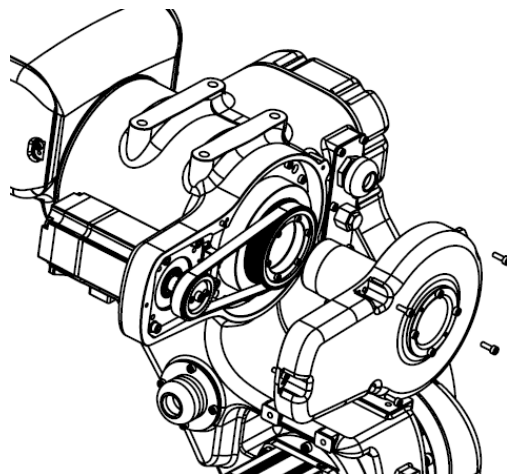

Figure 12-4 Diagram of removing J5 cover plate
Step3. Remove the J4 cover plate and 5 screws, as shown in Figure 12-4.